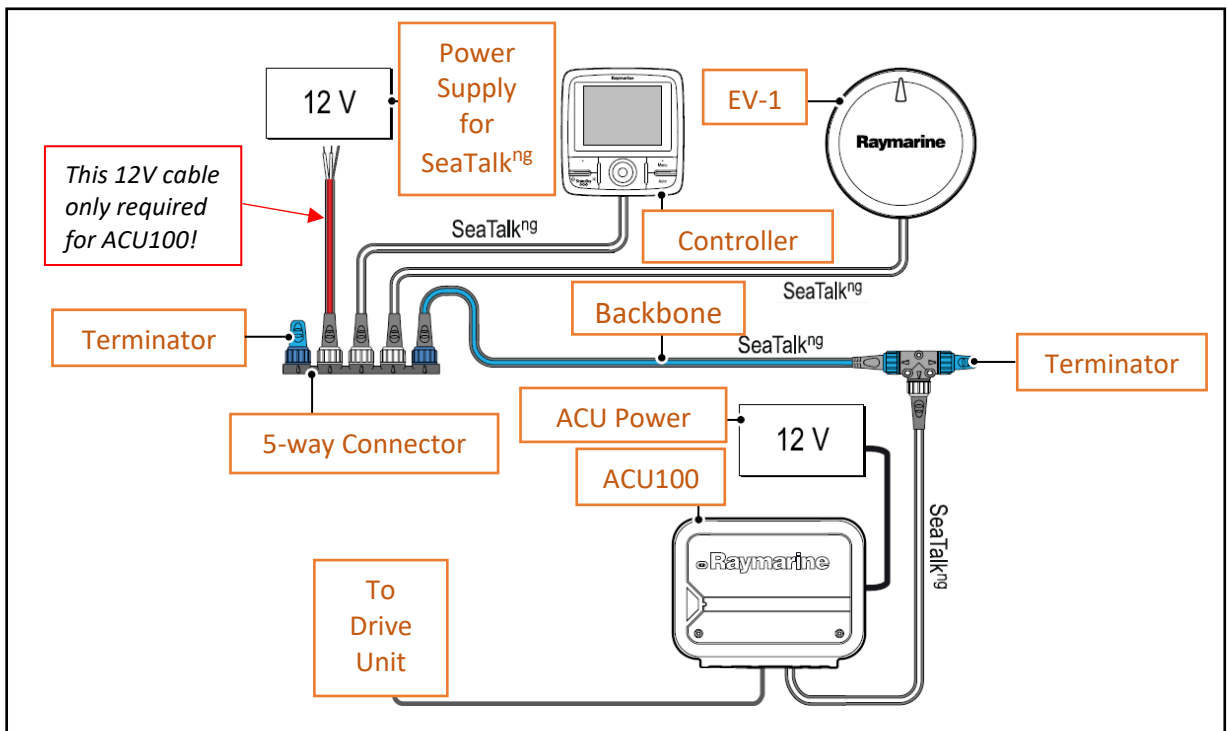

Figure 1 - Typical EV-100 Installation
- The EV-100 autopilot installation is, or will be installed, in accordance with the Raymarine EV-100 installation manual. As a guide, refer to Figure 1 for a typical EV-100 installation.